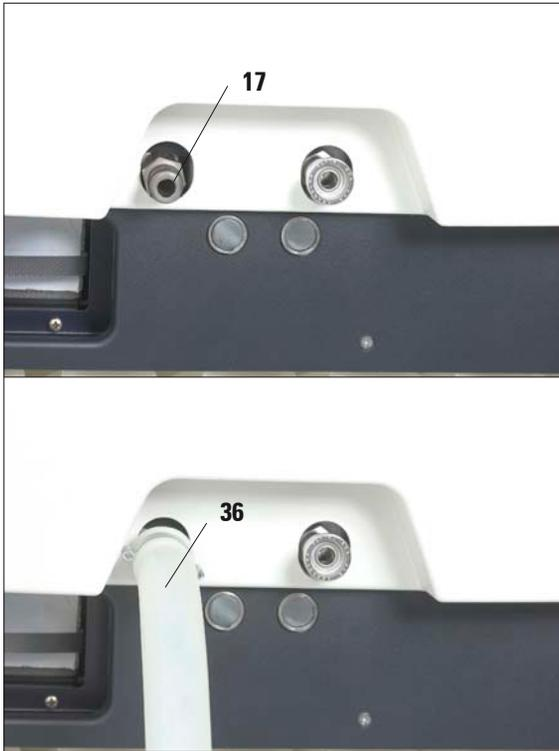

Fig. 50
- Connect the paraffin drain hose (36) to the wax drain connection (17) on the front of the instrument (Fig. 50) and insert the loose end of the hose into a collecting container.